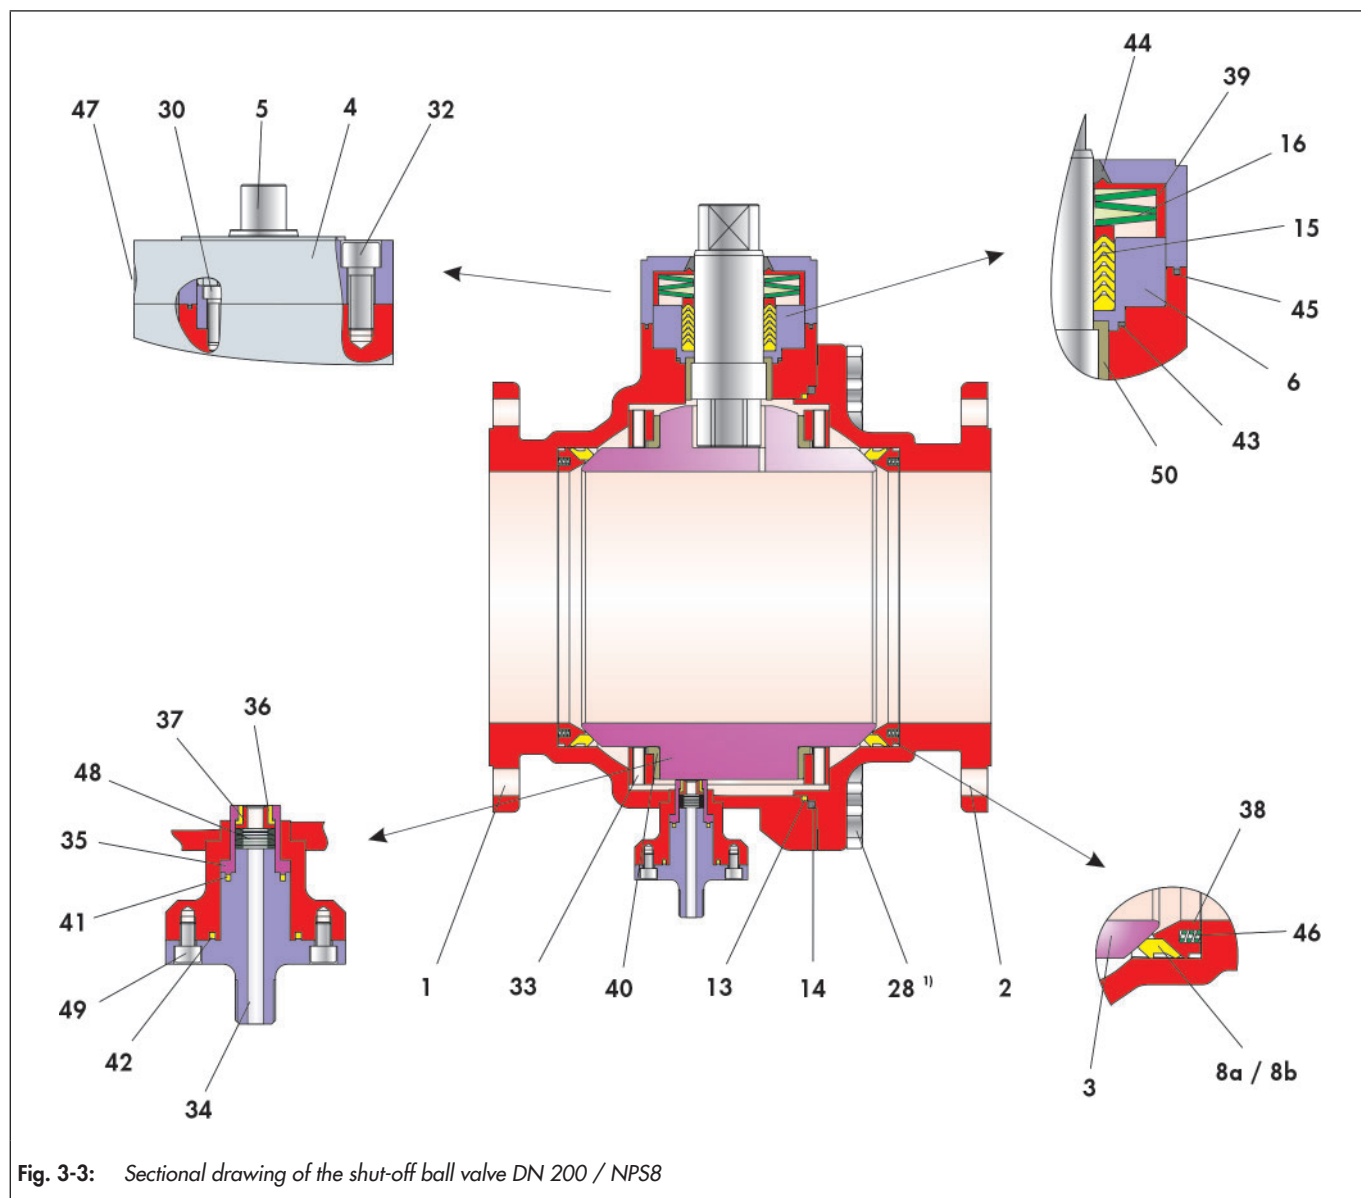

Fig. 3-3: Sectional drawing of the shut-off ball valve DN 200 / NPS8
The position and arrangement of the individual parts shown in fig. 3-3 must be observed during assembly.
- ⇒ Insert the ring (43) into the packing bush (6).
- ⇒ Fill the packing bush (6) with V-ring packing (15). Arrangement of the V-sleeves, see fig. 3-3.
- ⇒ Push the preassembled packing bearing with a slightly rotary movement without excessive force over the assembled control shaft (5).
- ⇒ Screw the packing bearing together with screws (30) evenly and in a criss-cross pattern.
- ⇒ Place the disc spring set (16) on the V-ring packing (15). Arrangement of the spring washers, see fig. 3-3.
- ⇒ Push the bush (39) over the control shaft (5) such that they lie on the disc springs (16) and centre them.
- ⇒ Push the ring (44) carefully over the control shaft (5) up to the bush (39).
- ⇒ Insert the ring (45) into the groove of the stuffing box flange (4).
- ⇒ Place the stuffing box flange (4) over the control shaft (5) onto the main body (1).
- ⇒ Lightly grease the screws (32).
- ⇒ Evenly adjust the stuffing box flange (4) with the screws (32) and tighten in a criss-cross pattern.